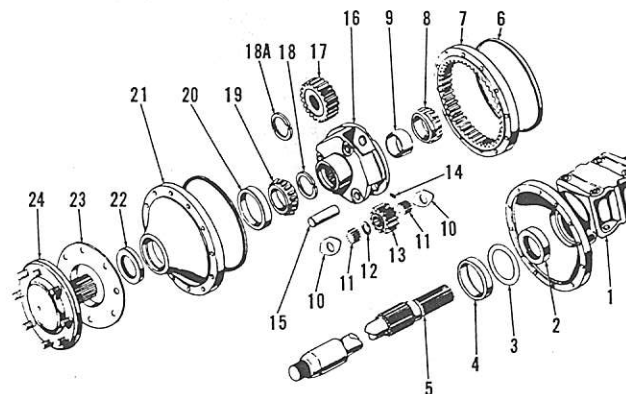

Fig. 244 — Exploded view of early three-pin (straddle mount) planetary final drive unit. Refer to Fig. 241 for cross sectional view.
215. **EARLY THREE-PINION (STRADDLE MOUNT) PLANETARY UNIT.** Refer to paragraph 221 for removal procedure of the complete final drive unit, and to paragraph 222 for removal of wheel axle and planet carrier assembly. Refer to Fig. 244 for an exploded view of planetary unit and associated parts.
216. **ADJUSTMENT.** Planet carrier bearing preload of 0.008-0.015 is adjusted by means of shims (3—Fig. 244) placed in bore of axle housing (1) behind bearing cup (4). Shims are available in thicknesses of 0.005, 0.010 and 0.015. Two methods of adjustment are recommended, a measured adjustment can be made as follows:
Position the removed bearing cup (4) over bearing cone as shown. Place two spacers (S) of known and equal thickness on bearing cup to clear the bearing cage (C); then use a straight edge and inside micrometer to measure the distance (A) from straight edge to surface of ring gear flange. Obtain a measurement from each side of bearing, turn straightedge 90° and remeasure; then add the measurements and divide by four to obtain an average. Subtract the thickness of spacers (S) to obtain the distance from bearing cup to ring gear flange. If the distance is 2.948-2.952, no shims (3—Fig. 244) are required. If distance is less than 2.948, add a sufficient
217. OVERHAUL. Left planetary unit can be overhauled after removing wheel axle and planet carrier assembly as outlined in paragraph 222 and locking the brake to permit withdrawal of main axle shaft (5—Fig. 244). If right main axle shaft is to be removed, the complete final drive unit must be removed as outlined in paragraph 221 to correctly install the differential lock sliding coupling. If main axle shaft is not removed, remainder of right unit may be overhauled after removing wheel axle and planet carrier assembly as outlined in paragraph 222.
With seal installed, carefully position drive cover (21) over axle shaft and install and seat outer bearing cone (19). Snap ring (18) and split ring (18A—Fig. 244) are interchangeably used and are variable in thickness. The snap ring (18) being available in four different thicknesses from 0.233 to 0.250; and the split ring (18A) available in nine thicknesses from 0.230 to 0.248. With axle and bearing assembled, use the thickest snap ring or split ring which will seat in snap ring groove.